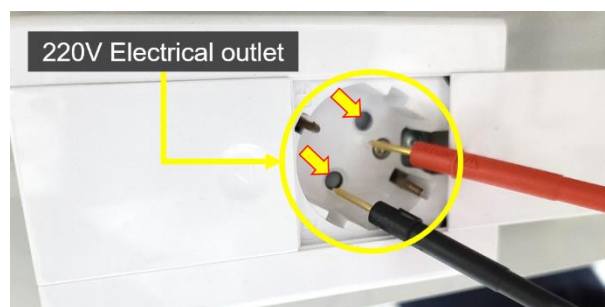

Figure 2. AC voltage measurement with DVM
1. As shown in Figure 2, check the AC voltage supplied to GC if it is the normal range (around 210-230 VAC).